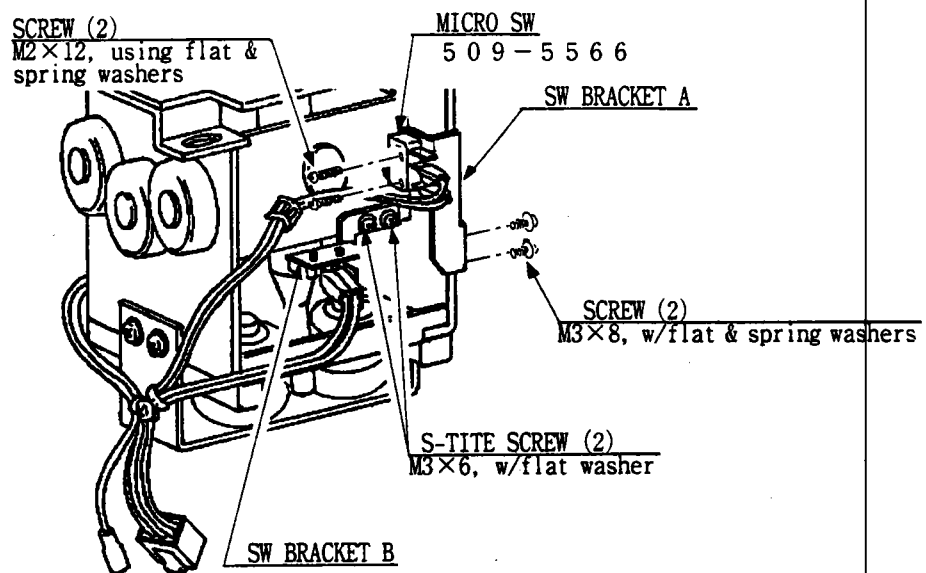

FIG. 11.2
- ① Disconnect the wiring connector of the SW to be replaced.
- ② Take off the 2 screws which secure the BRACKET (SW BRACKET A & B) to which the SW is attached, and remove the SW together with the bracket. (FIG. 11.2)
- ③ Take off the 2 screws which secure the SW, and replace the SW.